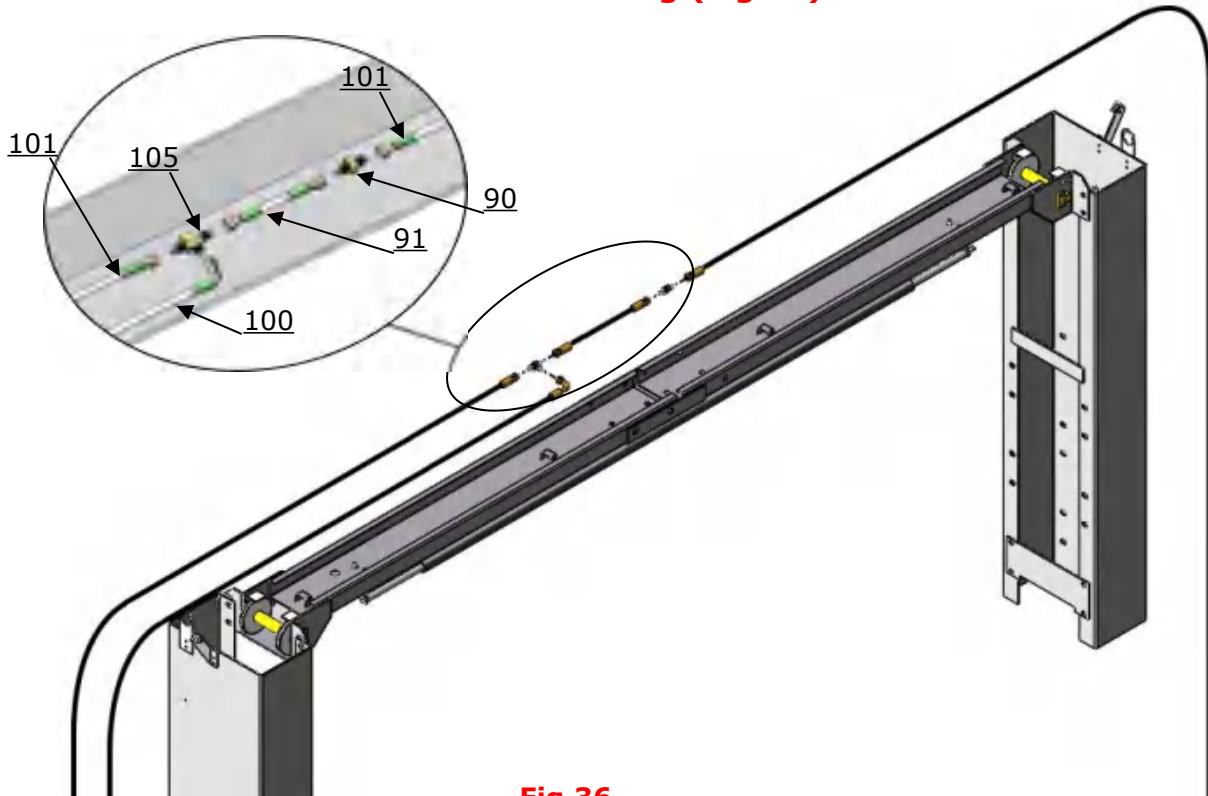

Fig.36
2. Oil hose installation of medium setting.(Fig.36)